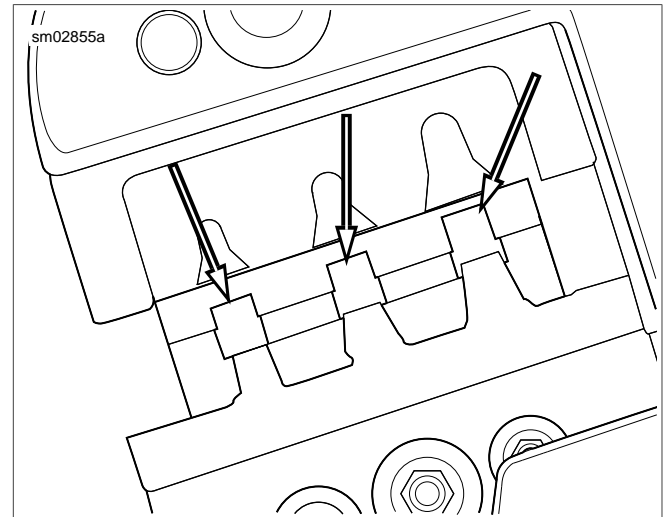

Figure A-53. Square Openings in Socket Locator Bar
1. See Figure A-53. With the crimp tails up, place the terminal through the punch/die into the square opening in the socket locator bar.